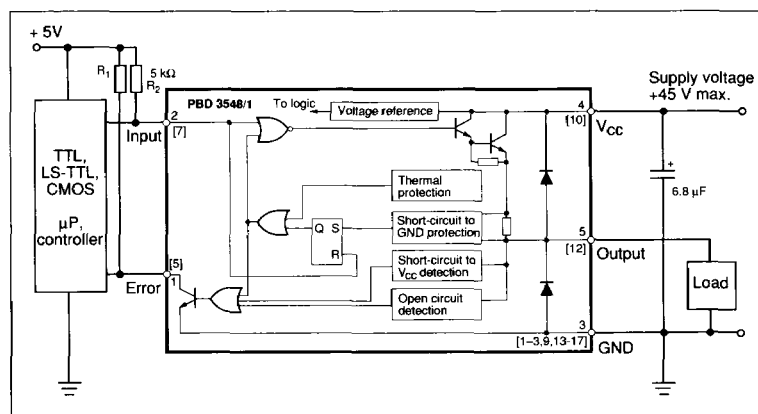

Figure 19. Typical application. Pin numbers refer to TO 220 package.
3. Connect Input and Error via pull-up resistors to the appropriate logic supply level or V_{cc} to obtain highest noise immunity. See figure 19. The resistor R_1 limits the current into the Error indicator.